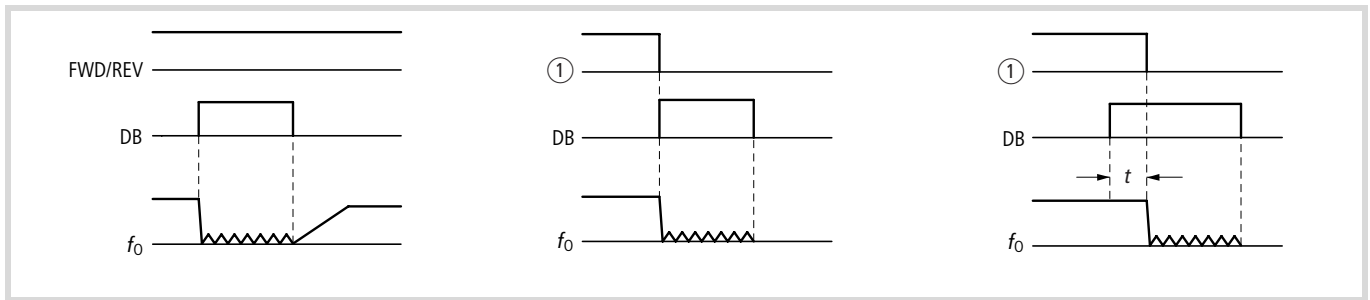

Figure 79: Function chart for DB (DC braking)
① Start signal through keypad
- Then, under PNU A053, enter a waiting time  $t$  (→ Fig. 79) from 0 to 5.0 s, which is to expire after activation of the DB input before DC braking is activated.